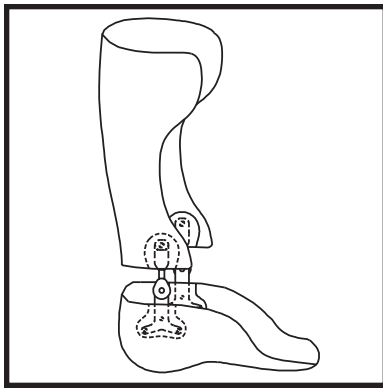

Figure 6: Additional Trimlines
12. Remove both alignment screws and draw trimlines just above the alignment screw on both medial and lateral upper sections of the of the ankle joints and at the apex of the lower section of the joints as shown in Figure 6. Extend all trimlines continuously from medial to lateral.